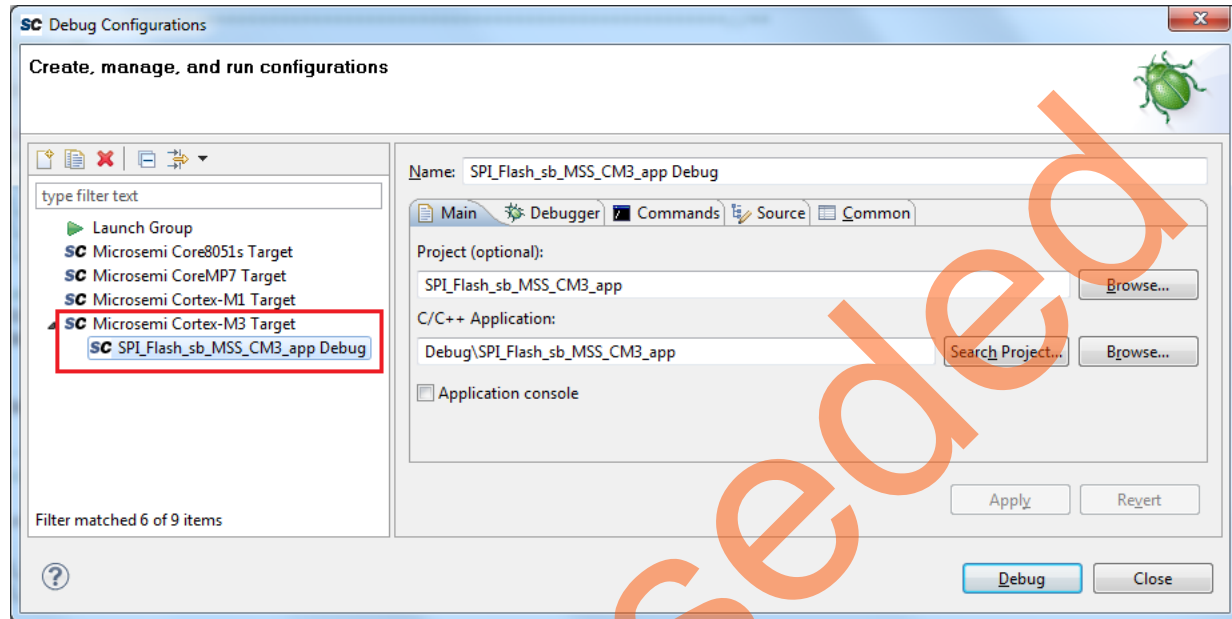

Figure 27 • Debug Configurations
1. Select **Debug Configurations** from the **Run** menu of the SoftConsole. The **Debug Configurations** dialog box is displayed. Double-click **Microsemi Cortex-M3 Target** to view the configurations, as shown in Figure 27.